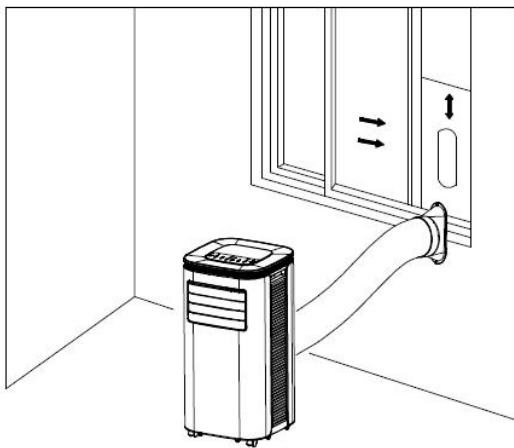
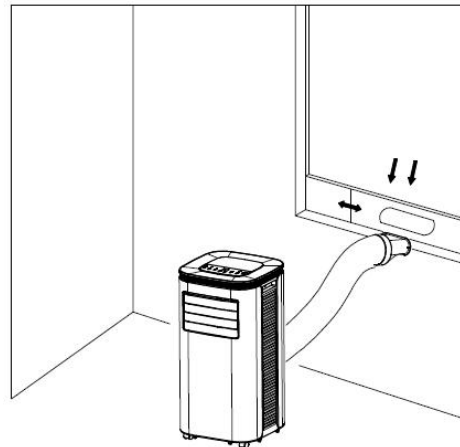

Fig.5
Fig.6
2) Elongate the exhaust pipe and snap the flat end of the exhaust pipe joints into the hole of the window sealing plate assembly (as shown in Fig.5 and Fig.6) .